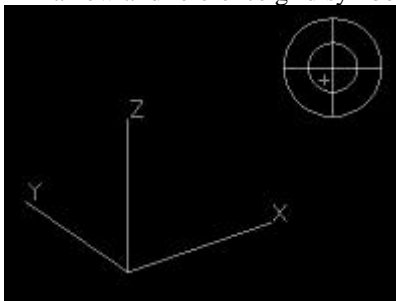

Figure 1. The AutoCAD "tripod" shows the desired position of the cursor within cross-hairs in the upper right corner
6. Change the view to axonometric with **View→3D Viewpoint→Tripod**. Move your cursor to the position indicated by the small "+" mark near the center of the cross-hairs in Figure 1. **<position cursor near the cross-hairs between the origin and outer circle at 8 O'Clock> click the left mouse button**